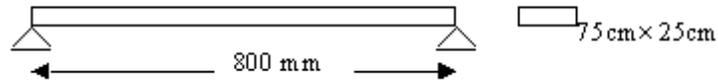

Figure 2:
6. Determine the natural frequencies of a simply supported beam of length 800 mm with the cross sectional area of 75 cm X 25 cm as shown in the figure2. Take  $E = 200$  Gpa and density of  $7850 \text{ kg/m}^3$ . [16]